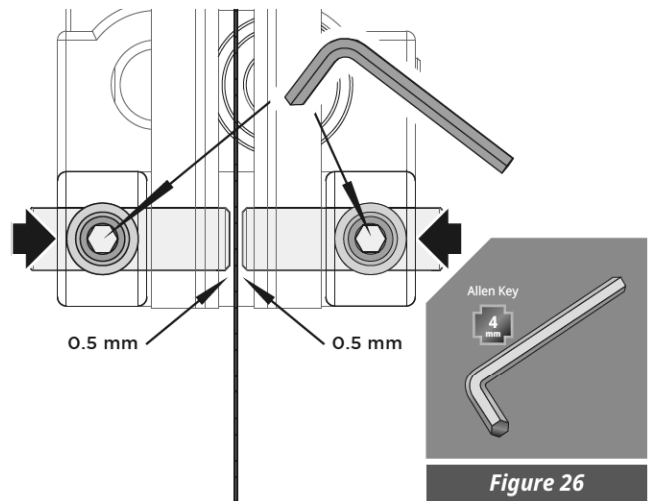

Figure 26
2. Press guide pins together, keep 0.5 mm distance between guide pin and the saw blade. (See Figure 26)